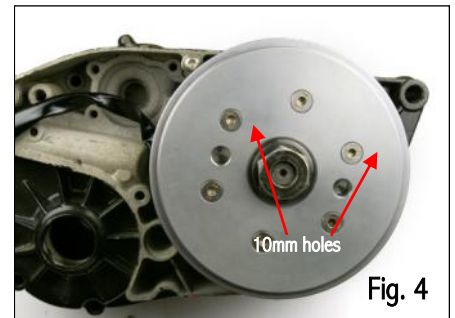

Fig. 4
Step 5 (See fig. 4) Refit inner flywheel, screw outer flywheel on to inner flywheel using x6 countersunk M6 screws provided, Locktite is highly recommended to retain these (**don't use Locktite stud retainer if you wish to remove the screws in the future**). Note the position of the 2 holes indicated (10mm diameter) are in alignment on inner and outer rotor, these are to hold the rotor with a suitable tool when tightening the crankshaft nut.